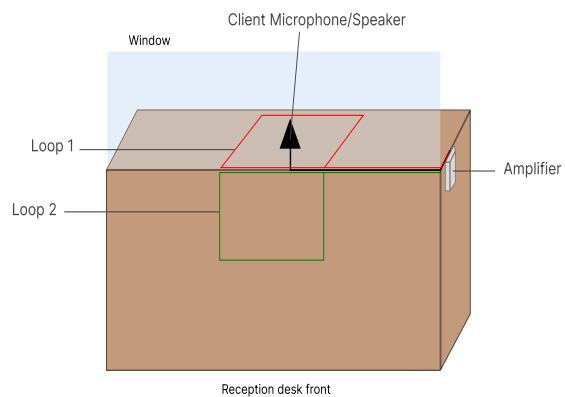

Figure 4
- Place one loop horizontally on the top of the reception desk and another one vertically on the countertop, as shown in the figure 4 opposite. Both has to be as close as possible from the client.